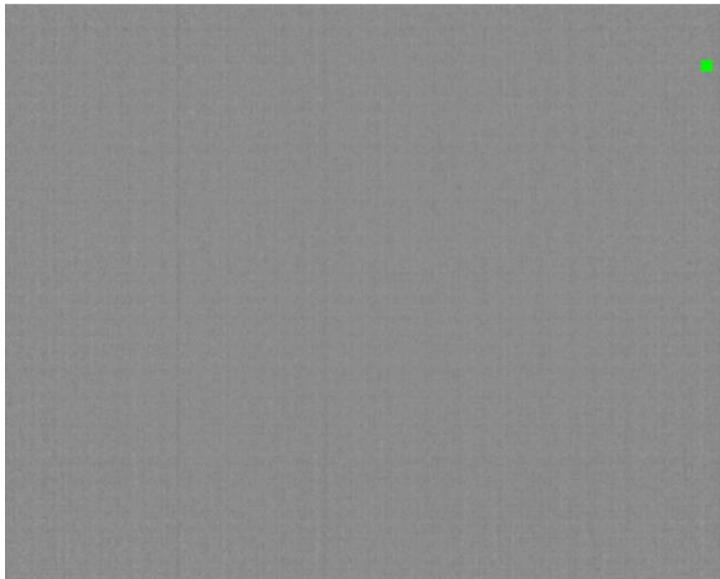

Figure 29: “FFC Imminent / In Progress” Symbol (Factory-Default)
- FFC In Progress: By factory default, the symbol shown in Figure 29 is displayed whenever the FFC State = “FFC Imminent” or “FFC in Progress”. (See Section 7.6 for full description of the FFC states.)